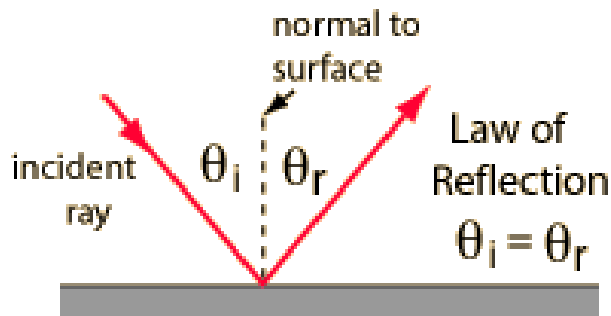
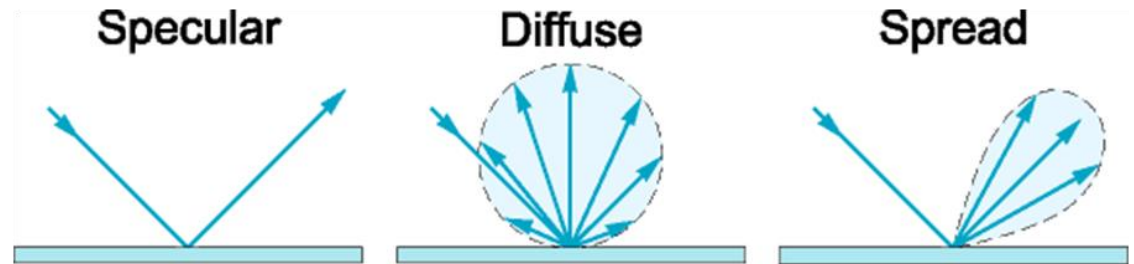

Fig. PF-7-1-5 Reflection
Fig. PF-7-1-6 Specular, Diffuse, and Spread Reflection from a Surface.
- The concept of reflection is shown in **Fig. PF-7-1-5** and the different types of reflection are illustrated below in **Fig. PF-7-1-6**